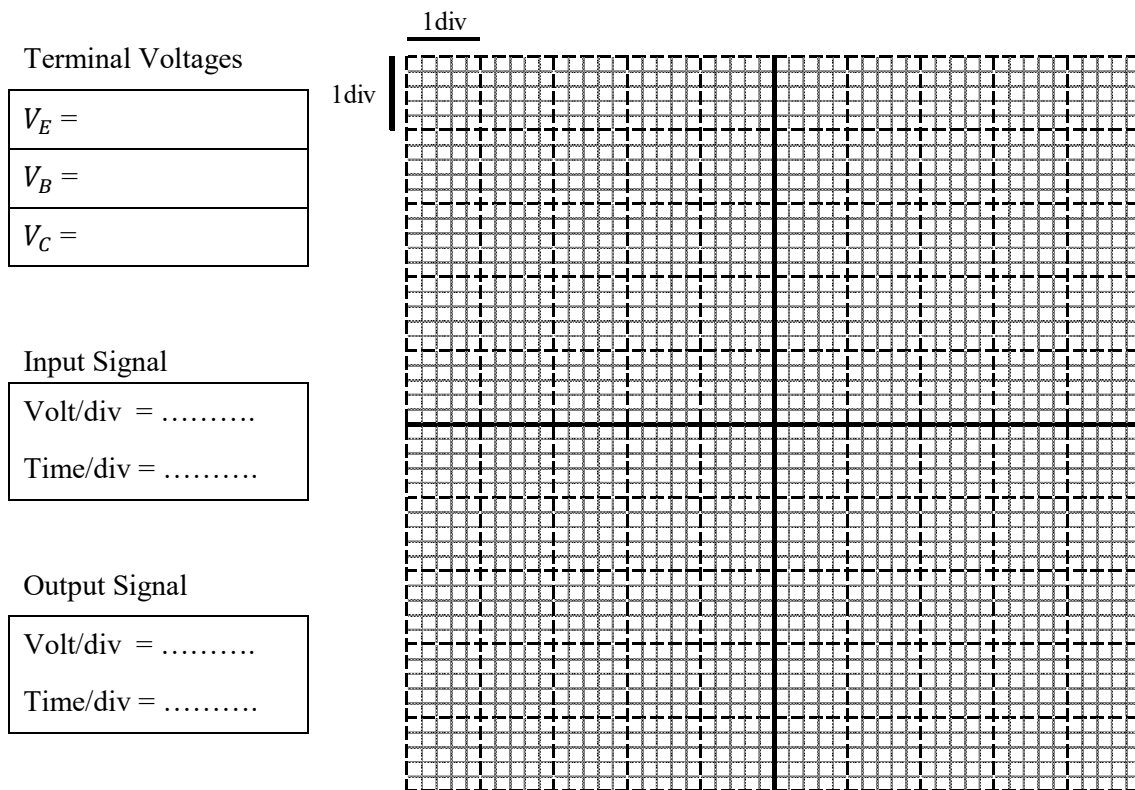

Figure 8: Input signal versus output signal oscillograph and terminal voltage measurements for Class-A.
8. Make sure the Function Generator is off, then measure the terminal voltages; V_E , V_B and V_C and fill the table inside the Figure 8 with measured values.
9. Sketch the input and output signal into Figure 8.